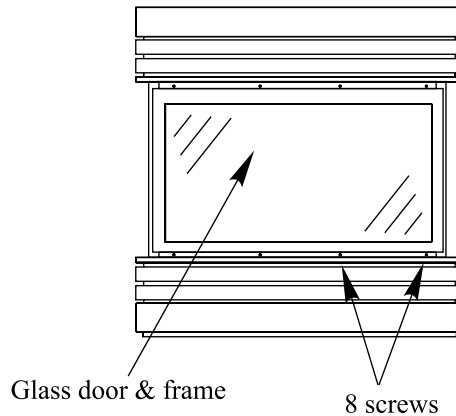

Figure 16. Removing inner doors.
The inner (combustion) doors are located behind the outer decorative doors. To remove the inner doors, simply unscrew the nine (9) machine screws on the top, bottom and side of the door. (See figure 16).